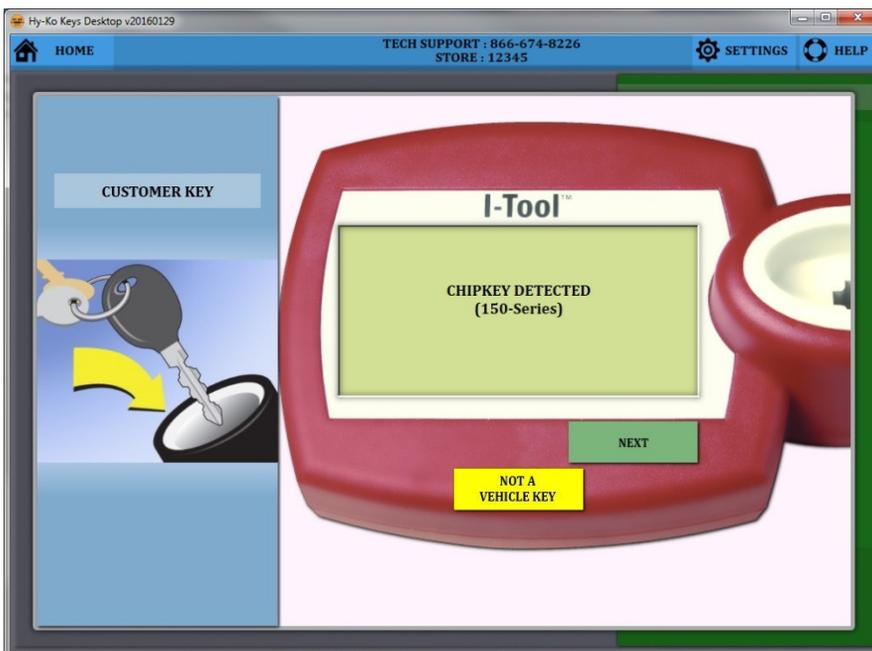

fig. 66
- When I-Tool has completed reading the customer's key, the type of chipkey is displayed on the picture of the I-Tool on the software (see fig. 66).